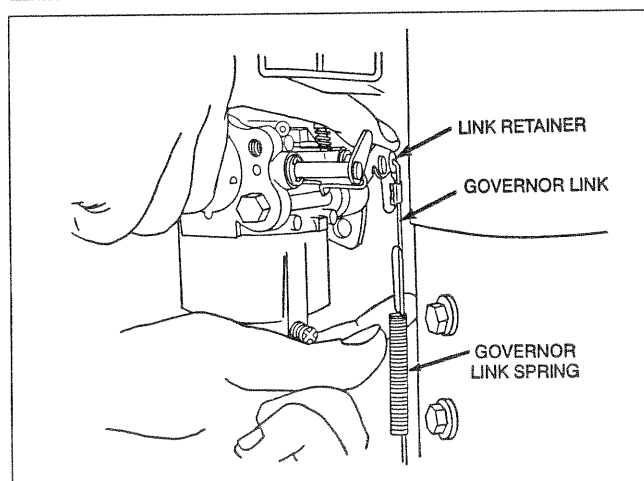

Figure 124. Disconnect Governor Link Spring
- Disconnect the governor link spring (Figure 124) from governor lever and throttle lever link retainer.